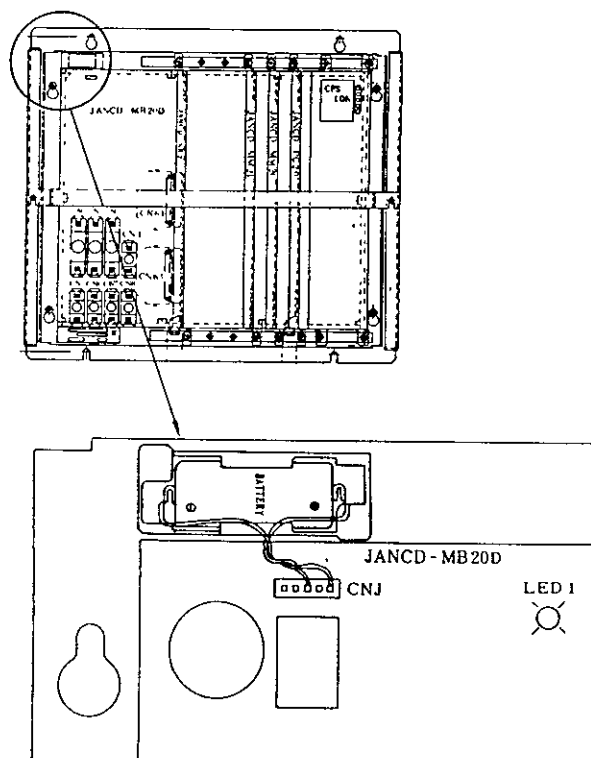

Fig. 2.3 Arrangement of LED and Battery
- (1) Depress POWER OFF pushbutton to shut off the power supply to the operator's station.
- (2) Turn OFF the door interlock switch key when a door interlock switch is provided. Then the power supply can be turned ON with the door opened.
- (3) Open the door and remove the CPU module cover (type JANCD-MB20) so that the module can be seen.
- (4) Depress POWER ON pushbutton (only for primary power supply).
(5) Check to see if 1LED on memory board is illuminated. Fig. 2.3 shows the arrangement of LED and the battery. If illuminated, replace the battery with new one.